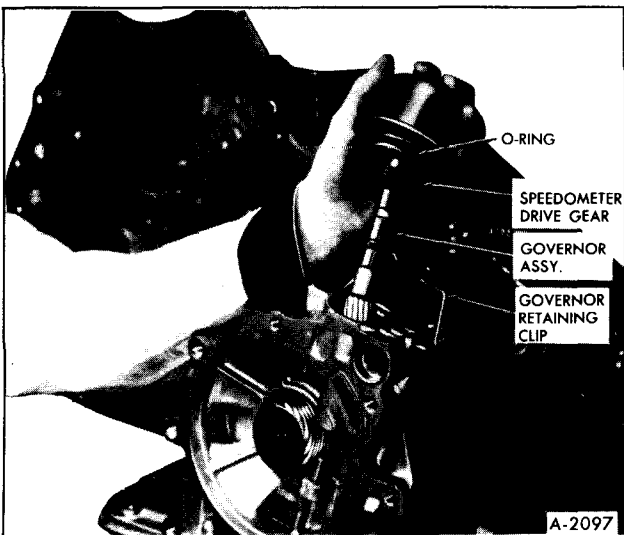

Figure 32—Governor Removal
5. Remove governor assembly and "O" ring seal from case bore. (figure 32)